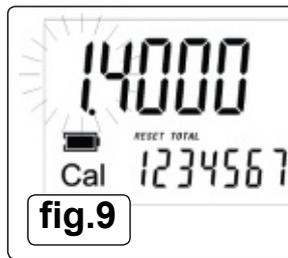

fig.9
5.4.3. Press and hold MOVE key until all digits illuminate and display shows 'Cal' (fig.9).